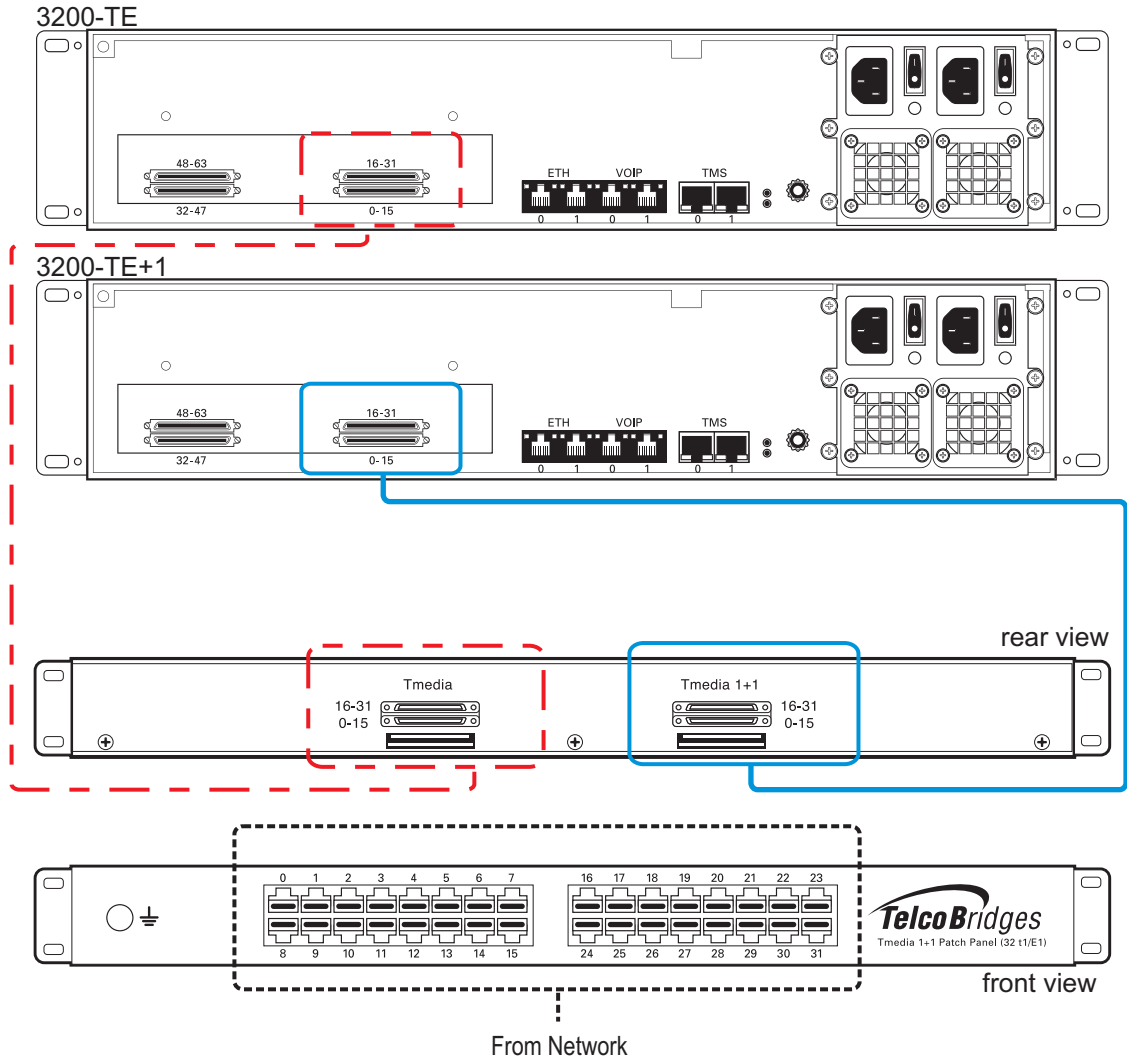

Figure 4.4 7800-TE and 7800-TE+1 connecting to the TDM 1+1 32/T1/E1 1+1 patch panel
1. Connect each T1/E1 line from the network section of the 1+1 patch panel to the remote equipment. See figure 4.4 on page 30.